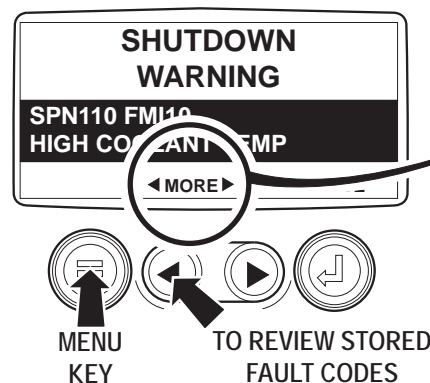

Figure 15 – Stored Fault Codes
4. Once the stored fault codes have been retrieved, the initial code will be displayed along with a text description. See Figure 15.